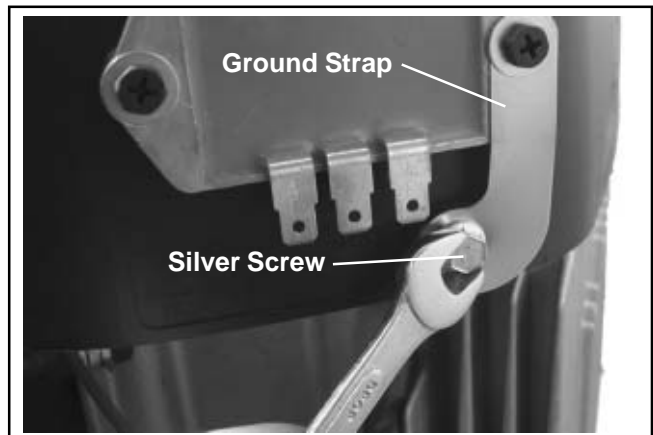

Figure 9-25. Rectifier-Regulator Ground Strap.
6. Remove the remaining hex. flange screws securing the blower housing. Note the one silver plated screw used for the rectifier-regulator ground strap or lead. Remove the blower housing. See Figures 9-25 and 9-26.